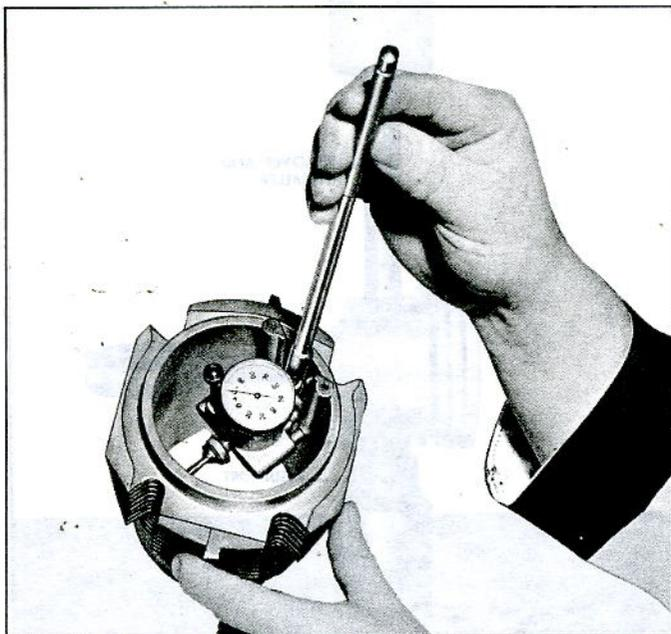

Fig. 100—Measuring Cylinder Bore
4. Measure the cylinder walls for taper, out-of-round or excessive ridge at the top of ring travel. This can be done with Tool J-8087 (fig. 100). Set gauge so that thrust pin must be forced in about 1/4" to enter gauge in cylinder bore. Center gauge in cylinder and turn dial to "0". Carefully work gauge up and down cylinder to determine taper and turn it to different points around cylinder wall to determine the out-of-round condition.